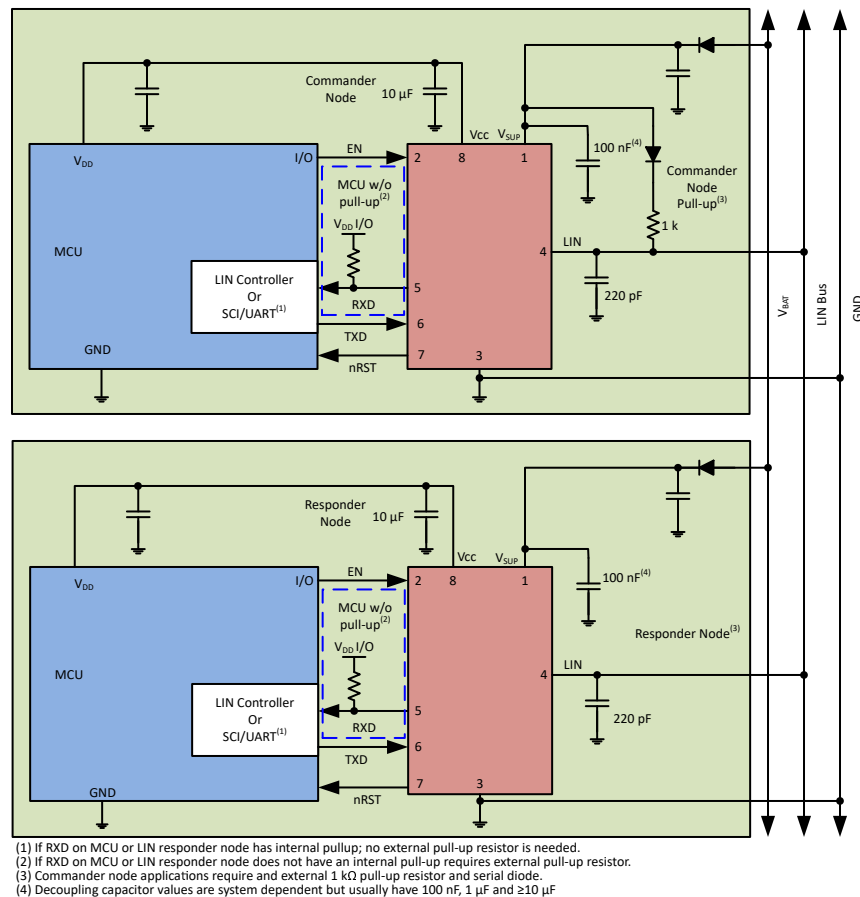

图 10-1. Typical LIN Bus
The device comes with an integrated 45 k Ω pull-up resistor and series diode for responder node applications. For commander node applications, an external 1 k Ω pull-up resistor with series blocking diode can be used. 图 10-1 shows the device being used in both commander and responder node applications.
- **Pin 2 (EN):** EN is an input pin that is used to place the device in a low power sleep mode. If this feature is not used, the pin should be pulled high to the regulated voltage supply of the microprocessor through a series resistor, values between 1 k Ω and 10 k Ω . Additionally, a series resistor may be placed on the pin to limit current on the digital lines in the event of an over-voltage fault.
- **Pin 4 (LIN):** This pin connects to the LIN bus. For responder node applications, a 220 pF capacitor to ground is implemented. For commander node applications, an additional series resistor and blocking diode should be placed between the LIN pin and the V_{SUP} pin. See 图 10-1